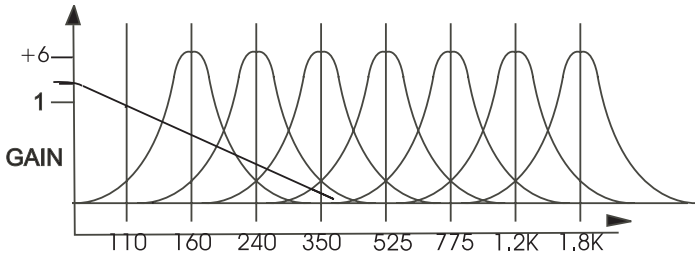

Figure 6 – Frequency Response of Bass MuRF in Basic
- 5) Now, play a bright, sustained sound, preferably of low pitch into the Bass MuRF. Figure 6 shows the MF-105B’s basic frequency response, the response that you hear when the panel controls are set up as in the basic setup. For a moment press the bypass switch and turn the effect off. Note the change in the character of the sound. Now switch the effect back on.